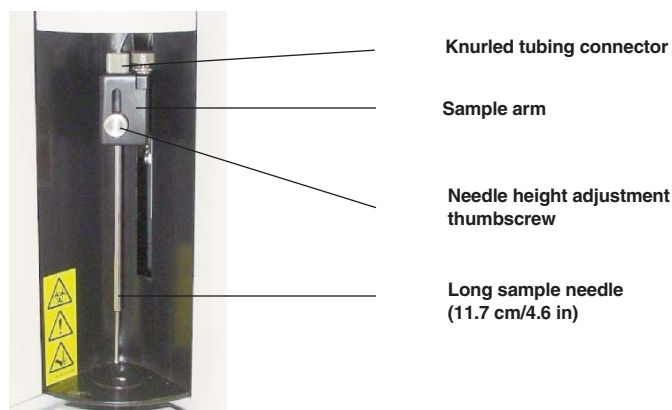

Fig. 15. Sample needle assembly.
3. Remove the knurled tubing connector (Cheminert fitting) atop the sample arm by grasping the sample arm and turning the connector counterclockwise (Figure 15). If the connector is difficult to remove, push up gently on the sampling needle.